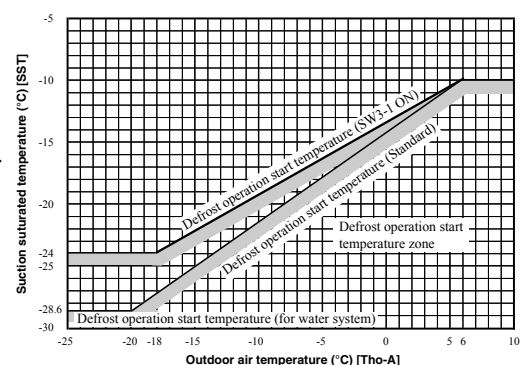

Fig 4-2
- iv) After satisfying all above conditions, if the outdoor heat exchanger temperature (Tho-R1, Tho-R2, whichever the lower) and the outdoor air temperature (Tho-A) become lower than the defrosting start temperature as shown in Fig 4-1 for 15 seconds continuously. Or suction gas saturated temperature (SST), which is detected by the low pressure sensor (LPT), and the outdoor air temperature (Tho-A) stay for 3 minutes within the temperature range lower than the defrosting operation start temperature as shown Fig 4-2. However it is not effective during 10 minutes after the start of compressor and if the outdoor air temperature is within the range of LPT invalid as shown in below figure.